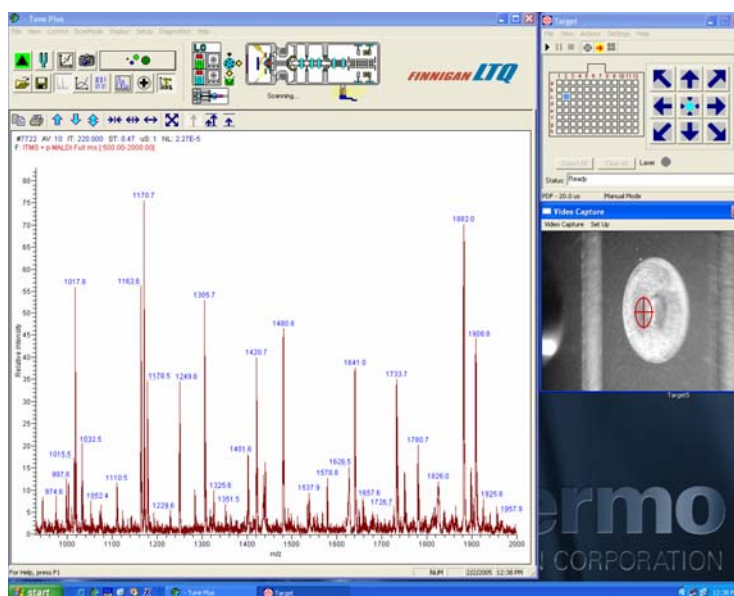

Fig. 7-17 Operation of Target software on the LTQ instrument computer.
- Fig. 7-17 represents a screen copy made during an AP/MALDI spectrum measurement of 100 fmol BSA digest with α -CHCA matrix. You can easily switch between the *LTQ Xcalibur* and **TARGET** programs to operate both the LTQ and AP/MALDI PDF source from the same computer. Or alternatively, separate computers can be used to run **TARGET** software and operate AP/MALDI.